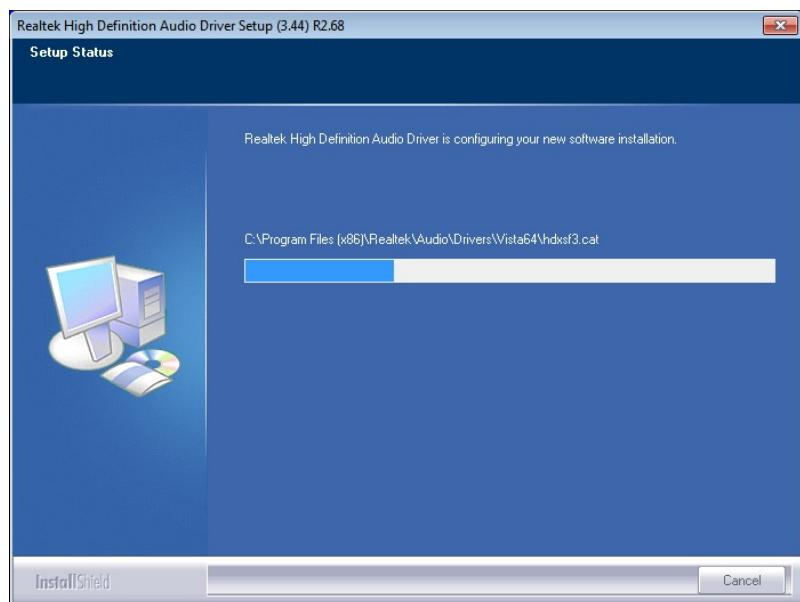

Figure 6-21: Audio Driver Installation
Step 7: The program begins to install. The installation progress can be monitored in the progress bar shown in **Figure 6-21**.